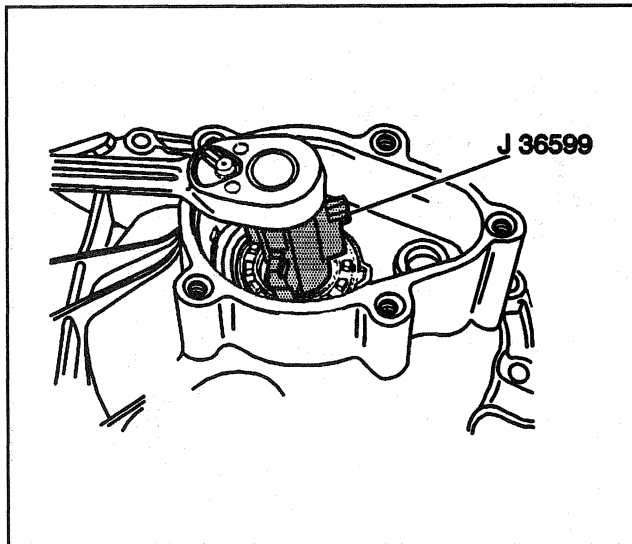

Figure 14—Turning the Adjuster Sleeve
- Turn the sleeve(s) to push the bearing cup(s) out of the bore(s). Use J 36599 (Figure 14).